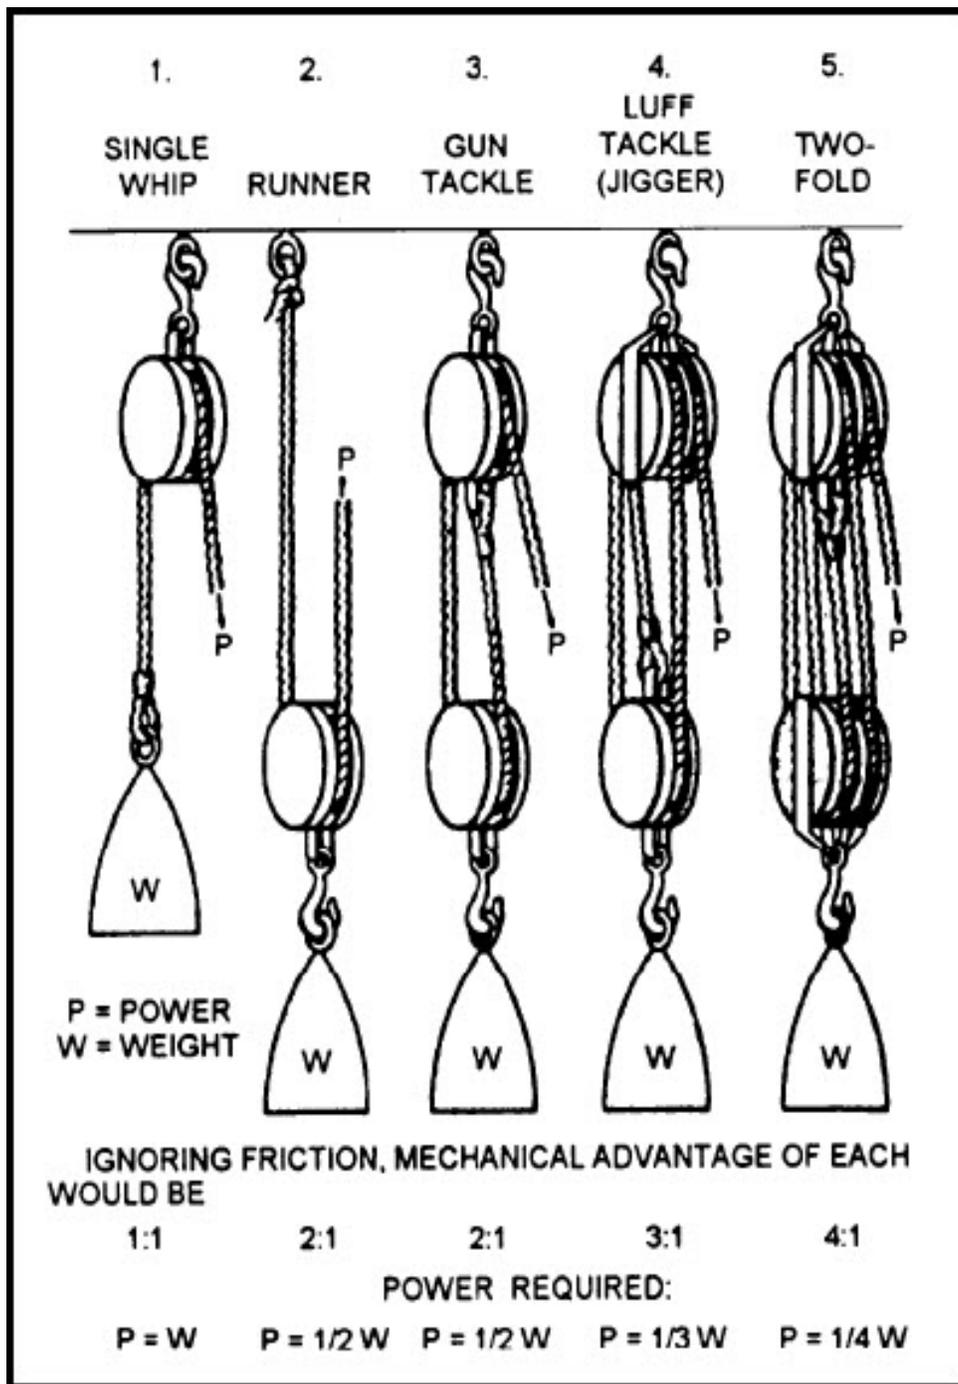

Figure 8-7 Blocks and tackles
Tackles are designated according to (1) the number of sheaves in the blocks that are used to make the tackle-single whip, gun tackle, or twofold purchase - or (2) the purpose for which the tackle is used - yard tackles, stay tackles, or fore-and-aft tackles. In this section, the most commonly used combinations (fig. 8-7) are described.
- **SINGLE WHIP:** A single whip consists of one single-sheave block fixed to a support with a line passing over the sheave (view 1, fig. 8-7).
- **RUNNER:** This, too, consists of a single block, but the block is free to move; one end of the line is secured to the support; and the weight is attached to the block (view 2, fig. 8-7).
- **GUN TACKLE:** This tackle is made up of two single blocks, as shown in view 3, fig. 8-7. It takes its name from the use made of it in hauling muzzle-loading guns back into battery after they have been fired and reloaded.
- **LUFF TACKLE (JIGGER):** A double and a single block make up this tackle (view 4, fig. 8-7).
- **TWOFOLD PURCHASE:** A twofold purchase, which is made up of two double blocks, is shown in view 5, fig. 8-7.
- **BOAT FALLS:** Boat falls may be twofold, double luff, or threefold and are reeved as shown in figures 8-7, 8-8, and 8-9. Boat falls should be reeved by the right-angle method.